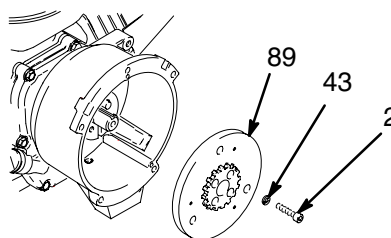

Fig. 13
8. Fig.13. Use an impact wrench or wedge something between armature (89) and clutch housing to hold engine shaft during removal.
9. Remove four screws (2) and lockwashers (43).
10. Remove armature (89).